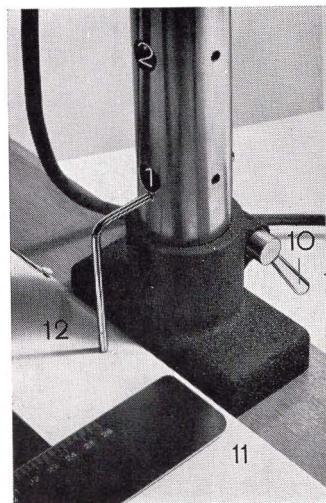

fig. 3
Turn lever (10) to release the locking on the column (see fig. 3) and lift column slightly until the indicator pin (12) touches slightly the surface of the easel. In this position the column is locked again tightening lever (10).